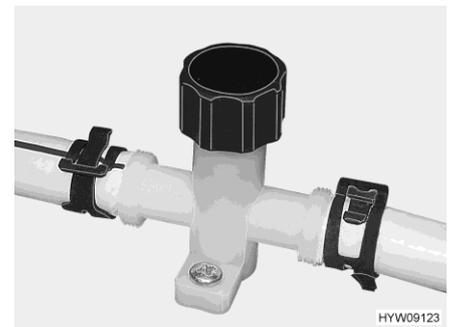

Fig. 139 Drain cock (water pipe)
- Close the drain cocks (Fig. 139). In order to do this, turn the cap in a clockwise direction, respectively. The position of the safety/drainage valve and the drain cocks is specified in the section 10.7 at the end of this chapter.